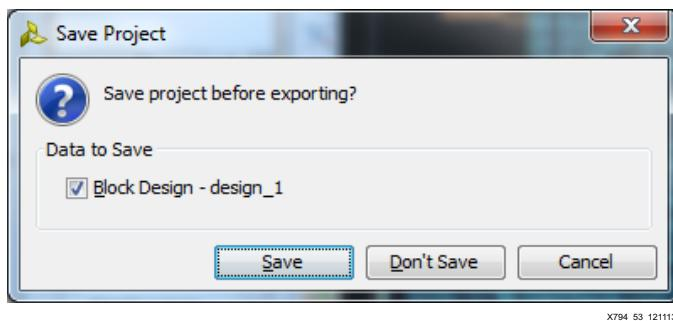

Figure 53: **Save Project Before Exporting**
3. If you have not saved the IP Integrator block diagram, save it before exporting the hardware for SDK (Figure 53). Click **Save**.